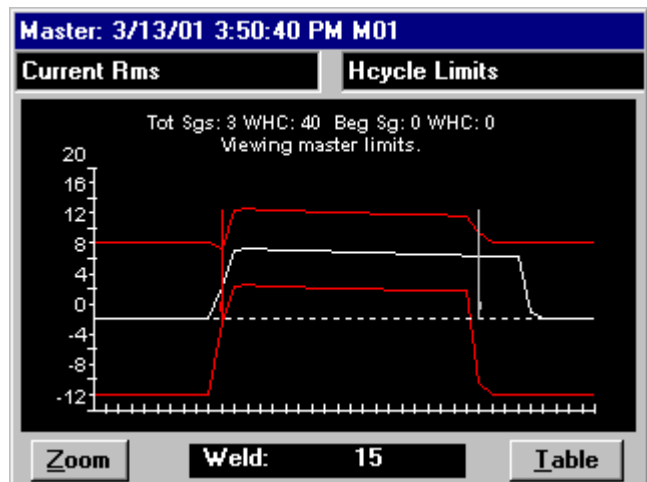

Figure 5-17 Halfcycle Summary of REJECTED weld
4. Go to the **Halfcycle Summary** screen. It should look something like figure 5-17.